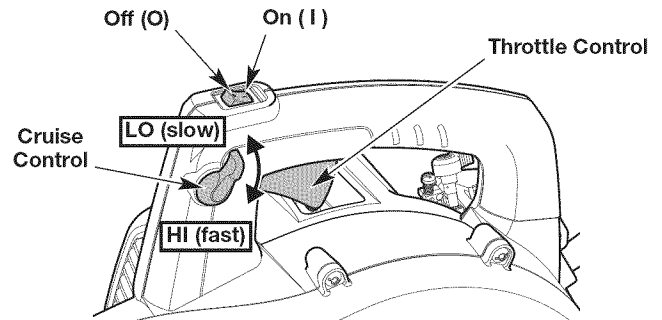

Fig. 3
**NOTE:** There is no need to turn the unit on. The On/Off switch is in the ON (I) position at all times (Fig. 3).
4. Move the cruise control to the **LO (slow)** position (Fig. 3).
**NOTE:** Keep the cruise control in the **LO (slow)** position and **DO NOT** squeeze the throttle control until step 9 (Fig. 3).
8. **DO NOT** squeeze the throttle control. Idle the engine for 5 to 10 seconds. If the unit stops during this time: Squeeze and hold the throttle control or move the cruise control to the **HI (fast)** position (Fig. 3). Pull the starter rope with a controlled and steady motion until the unit starts.
9. Squeeze and hold the throttle control or move the cruise control to the **HI (fast)** position (Fig. 3). Allow the engine to warm up for 30 to 60 seconds.
2. Press and hold the On/Off switch in the **OFF (O)** position until the engine comes to a complete stop (Fig. 3).
- Use the cruise control to make continuous operation easier (Fig. 3).